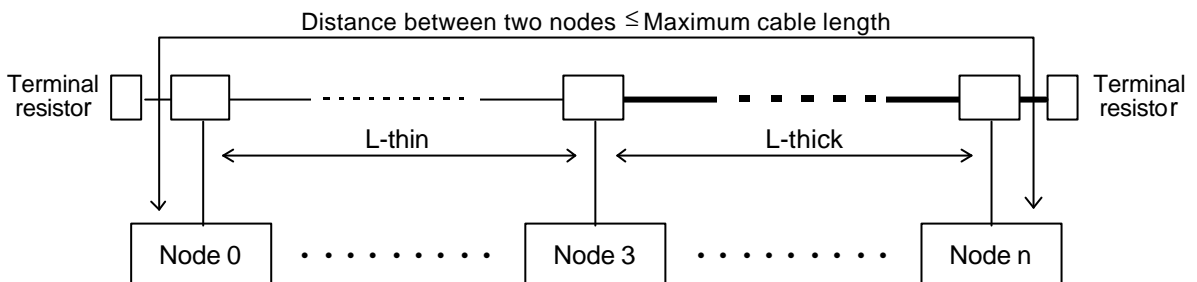

Figure 1.7 Distance Between Two Nodes on a Network with Drop Lines
c) Figure 1.7 shows the **maximum distance between two nodes** in the case that the trunk line consists of Thick Cable and Thin Cables and that drop lines are connected. Use the formulas in Table 1.3. for calculating the **maximum cable length**.
For Figure 1.7, the maximum trunk line length between node 0 and node n is equal to the maximum cable length (value in Table 1.3) minus the total length of the drop lines for node 0 and node n.